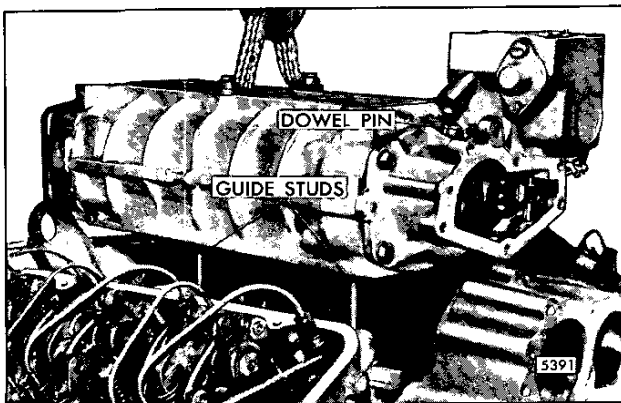

Fig. 4 - Removing/Installing Blower (6V Engine)
12. Remove the four bolts and flat washers which attach the blower to the top face of the cylinder block. Lift the blower and governor assembly from the engine (Fig. 4).